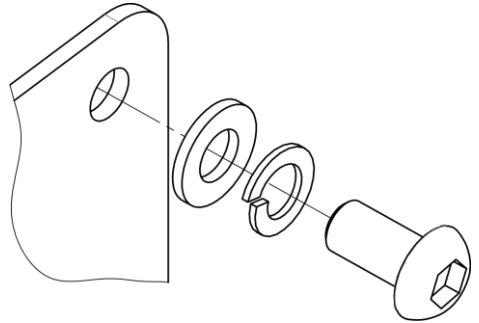

Figure 3. Washers on the screw
5.4.2. Connect the units with four plates. A plate requires four screws, each with a washer and a lock washer on it (fig. 3). Fix the screws tightly.
5.5.2. Attach the left and the right legs to the base unit. A leg requires four screws, each with a washer and a lock washer on it (fig. 3). Fix the screws tightly.
5.5.6. Connect the units with four plates. A plate requires four screws, each with a washer and a lock washer on it (fig. 3). Fix the screws tightly.
5.5.9. Connect the units with four plates. A plate requires four screws, each with a washer and a lock washer on it (fig. 3). Fix the screws tightly.